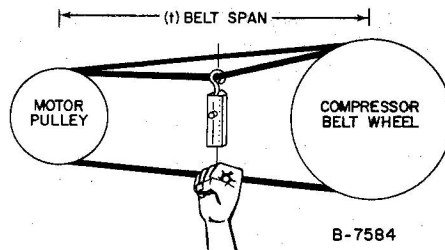

Figure 2-7. Spring Scale Method
(A) Measure the belt span (t) as shown in Figure 2-7.